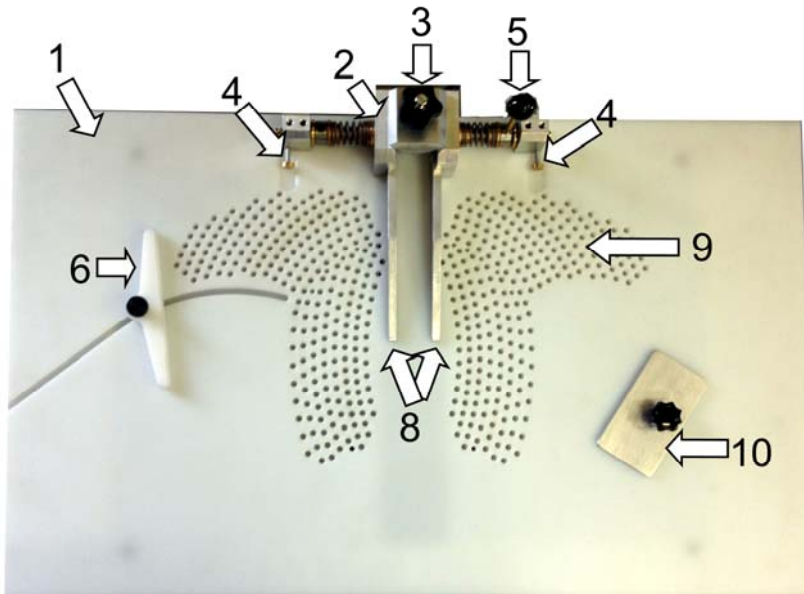

Figure 1
2. Adjust the space between the tines to fit the spine by turning the Adjustment Knob (#3 in figure 1).
3. Place the front & back cover binder-board to the left & right of the spine. You may have to adjust the two screws – referred to as the Edge Turn Adjustment, #4 in Figure 1) so that about  $\frac{3}{4}$ " (1.9 cm) of the cover extends past the binder board.